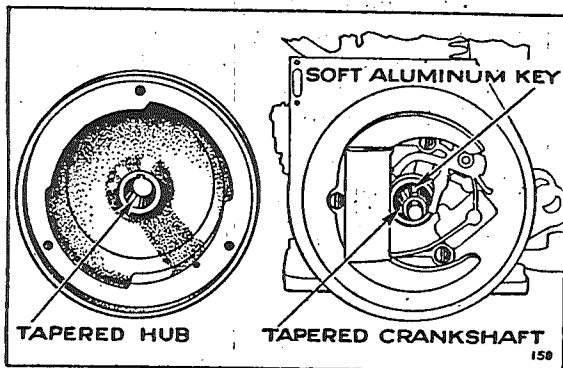
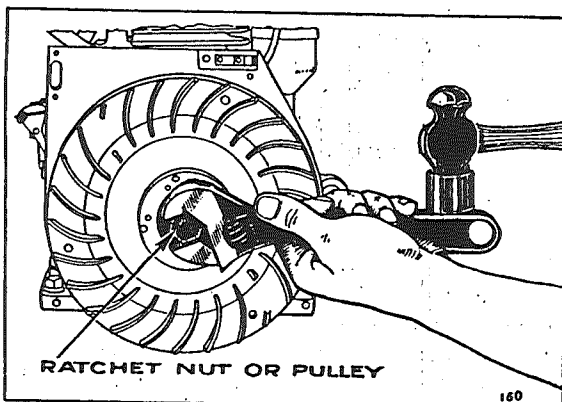

Fig. 6.
Fig. 7.
42. **Replacing the flywheel.** When completing any necessary work, replace the flywheel, being sure to use the soft flywheel key supplied. The key is only for the purpose of locating the flywheel on the crankshaft in the correct position so that the magneto will be correctly timed. The flywheel is driven, however, by being a tight taper fit on the taper of the crankshaft. (This taper is shown in Figure 6.) In case the flywheel should come loose, the soft key is designed to shear off so that no damage will be done. Therefore, A STEEL KEY SHOULD NEVER BE USED. After the flywheel is in place, has been located with the key and nut or pulley has been screwed up, this nut or pulley should be made VERY TIGHT. This can be done as shown in Fig. 7 by striking the wrench handle or bar with a hammer.